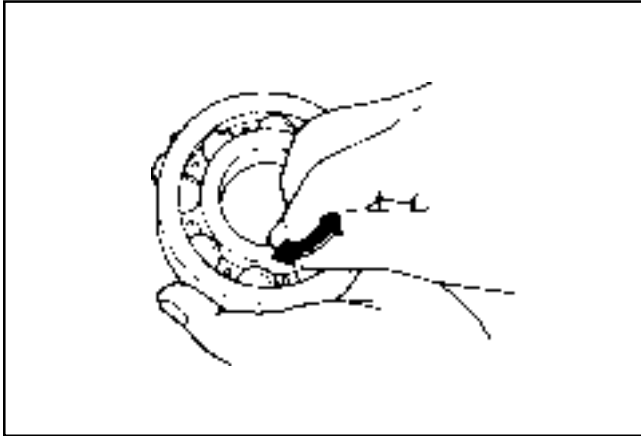

Figure 9-62. Checking Bearing Play.
6. Check the reduction system bearings for wear or excessive play. See Figure 9-62. If bearing removal is required, use an internal bearing puller to remove the housing bearings. An arbor press should be used for removal of the others.
- Check the reduction system bearings for wear or excessive play. See Figure 9-62. If bearing removal is required, use an internal bearing puller to remove the housing bearings. An arbor press should be used for removal of the others.